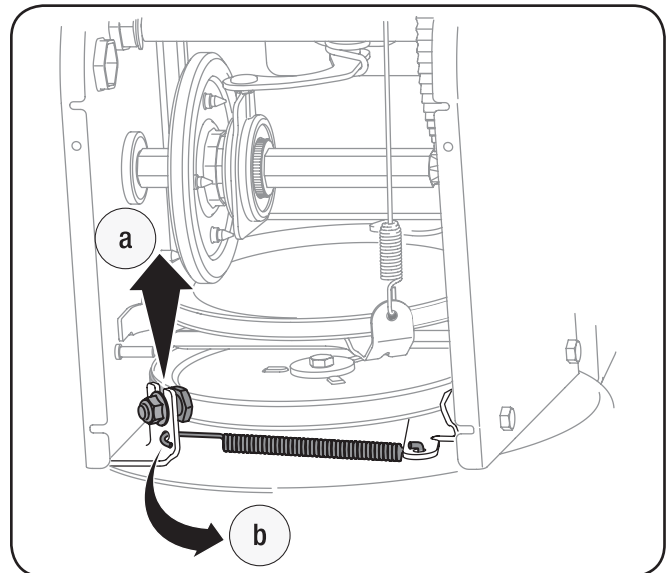

Figure 7-4
- b. Unhook the auger brake bracket spring from the frame. See Figure 7-4.